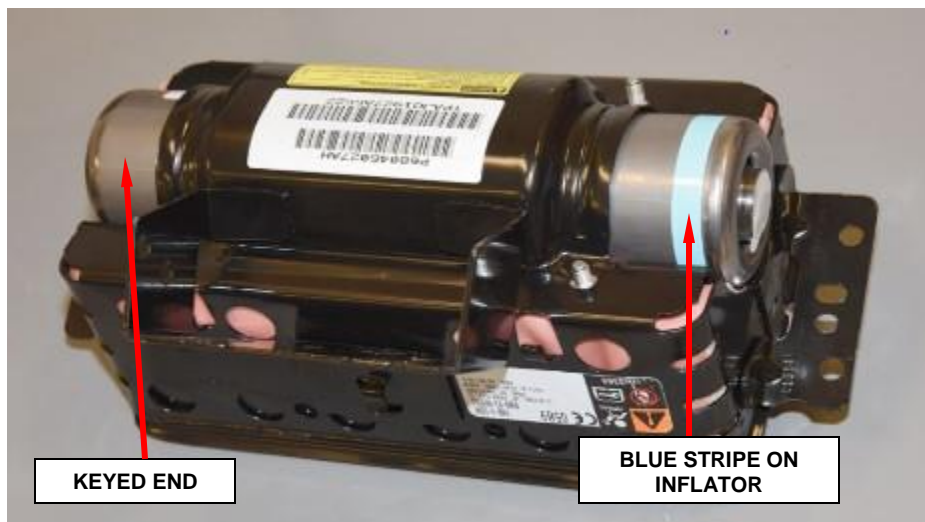

Figure 25 – Insert Inflator (Shown with Cushion Installed)
- j. Slide **new** inflator into housing. The keyed end is inserted first, therefore the blue stripe on the inflator will be located at the open end, as shown (Figure 25).